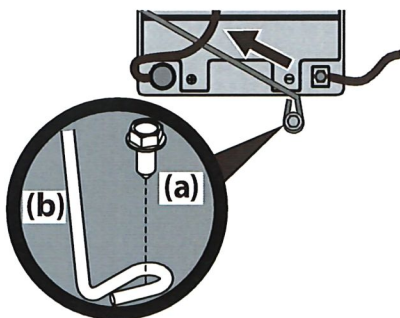

Figure 13
NOTE: Wiring harness should lay on top of battery hold down rod, otherwise damage to the wiring harness may result. See Figure 13 on page 12.
3. Remove the battery hold down rod by pushing the hooked end out of the tab on the fender to the right side of the battery. Then flip the battery hold down rod up to free the battery. See Figure 13.